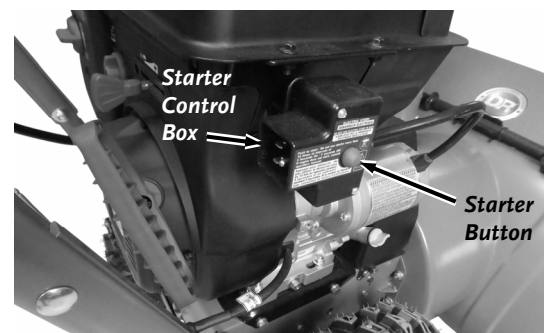

Figure 29
5. Connect the required Heavy-Duty extension cord into the Snow Blower Control Box (**Figure 29**) and plug the Extension cord into a 120V outlet.